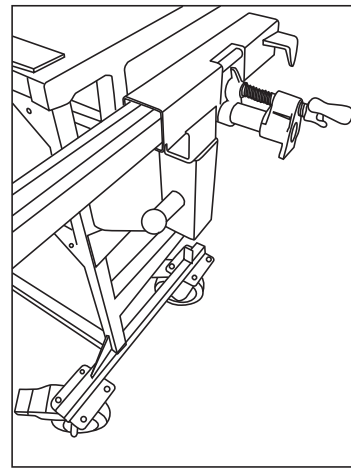

Fig 2
2. To utilize the speed vise (9) assembly for cutting strut. Place either $\frac{7}{8}$ " or 1- $\frac{5}{8}$ " strut into strut holder. Place strut in the correct position to make desired cut. Tighten the speed vise (9) by cranking the screw handle until tight. Strut is now ready to be safely cut (Fig. 2).